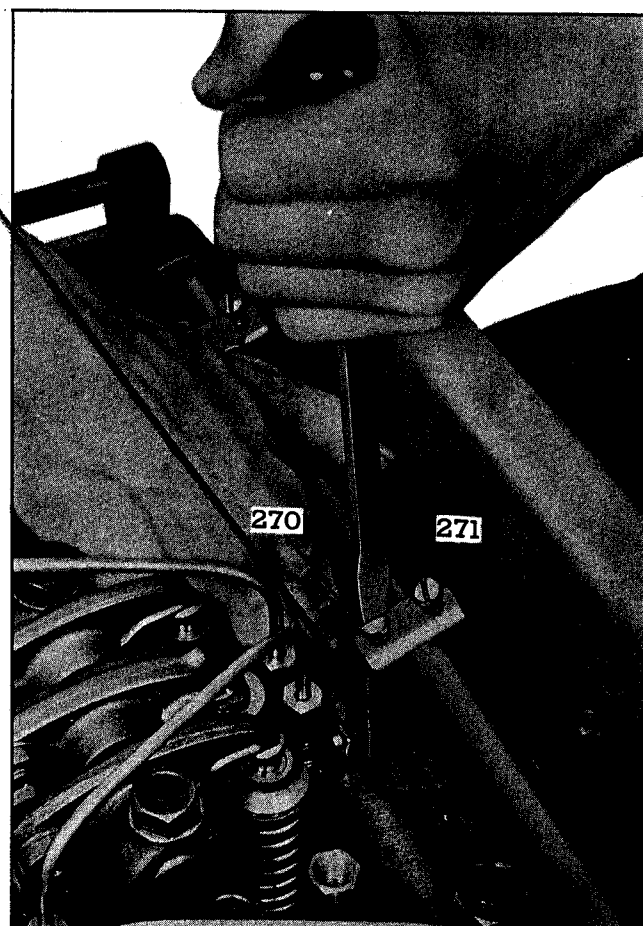

Fig. 11—Positioning No. 2 Injector Rack Control Lever.
- Place finger on rack of No. 2 injector as shown in Fig. 11. Turn inner adjusting screw down until rack tightens on pin of rack control lever. Tighten outer adjusting screw.